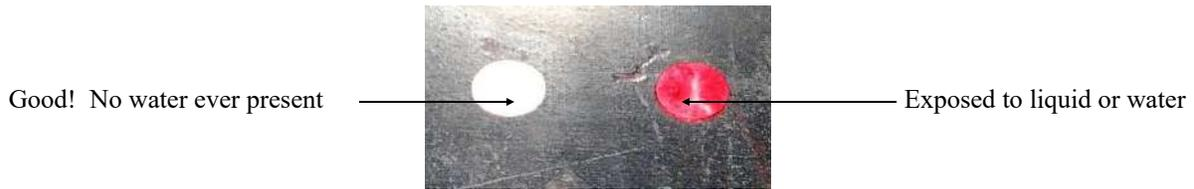

Figure 2
- Visually check cabinets for signs of moisture. Check shelf's water dots (see Figure 2). Water dots are placed on every shelf and door panel to indicate if moisture is present or has got inside the unit. The Dots are originally white in color but will turn red when water drops are absorbed.